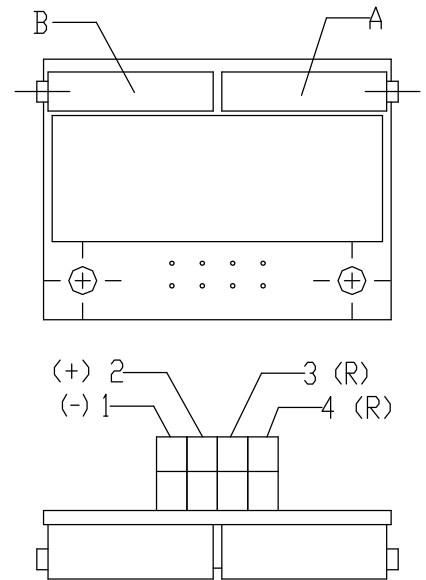

Fig.6
3.4.1 EPV – the 2-wire version (Fig. 6)
- Adjust the resistive transmitter according to the previous chapter. The resistance is to be metered on the terminals R-R (Fig. 6). The used transmitter resistance is 100 Ω.
- Turn the adjusting trimmer A (Fig. 6) to adjust the output current signal rate measured on the terminals 81-82 to 4 mA.
- Turn the adjusting trimmer B (Fig. 6) to adjust the output current signal rate measured on the terminals 81-82 to 20 mA.